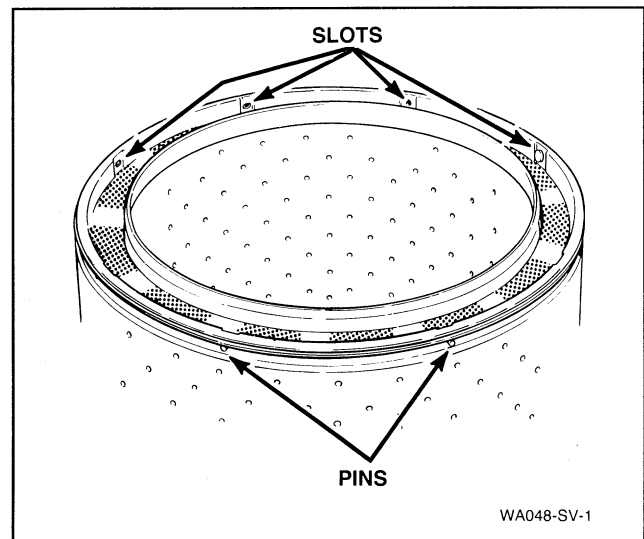

Figure 29
- Place a small screwdriver in behind the slots provided in the lint filter, *Figure 29*.
- Carefully pry the pins of the lint filter out of the holes in the washtub, *Figure 29*.